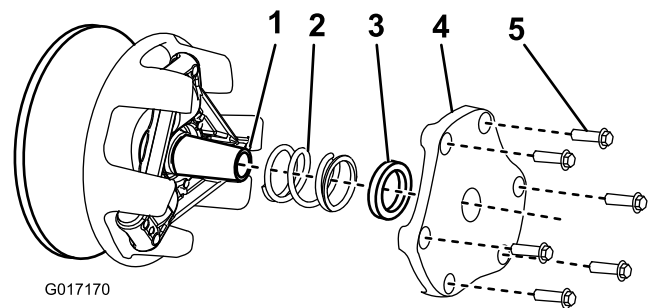

Figure 51
4. Set aside the cover, spacer, and spring (Figure 51).